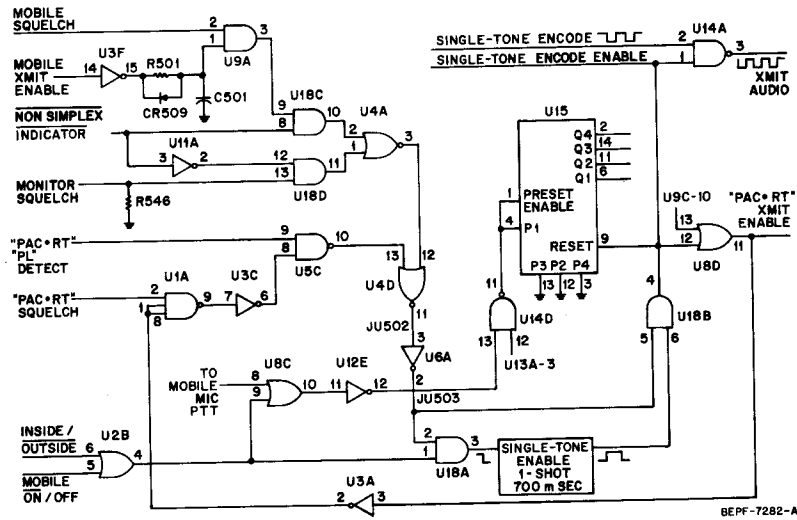

Figure 12. Single-tone Encode Logic Diagram
A 700-millisecond single-tone burst is transmitted when the portable radio is removed from the control unit (Inside / Outside line goes low or to logic zero). If a portable carrier with PL tone and a mobile carrier is present, the PAC•RT repeater will not transmit a single-tone burst. Figures 12 and 13 illustrate the logic operation for removing the portable radio from the vehicular repeater control unit under one of four conditions: (1) portable carrier, (2) mobile carrier, (3) portable carrier with PL tones and mobile carrier, and (4) no carriers present.